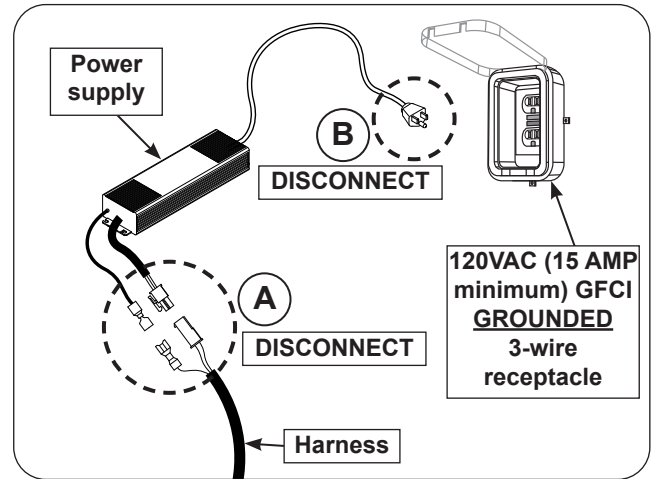

Fig. 37-1 Perform system reset
2. Disconnect the harness from the power supply (see Fig. 37-1, A).
3. Disconnect the power supply from the power source. (see Fig. 37-1, B).